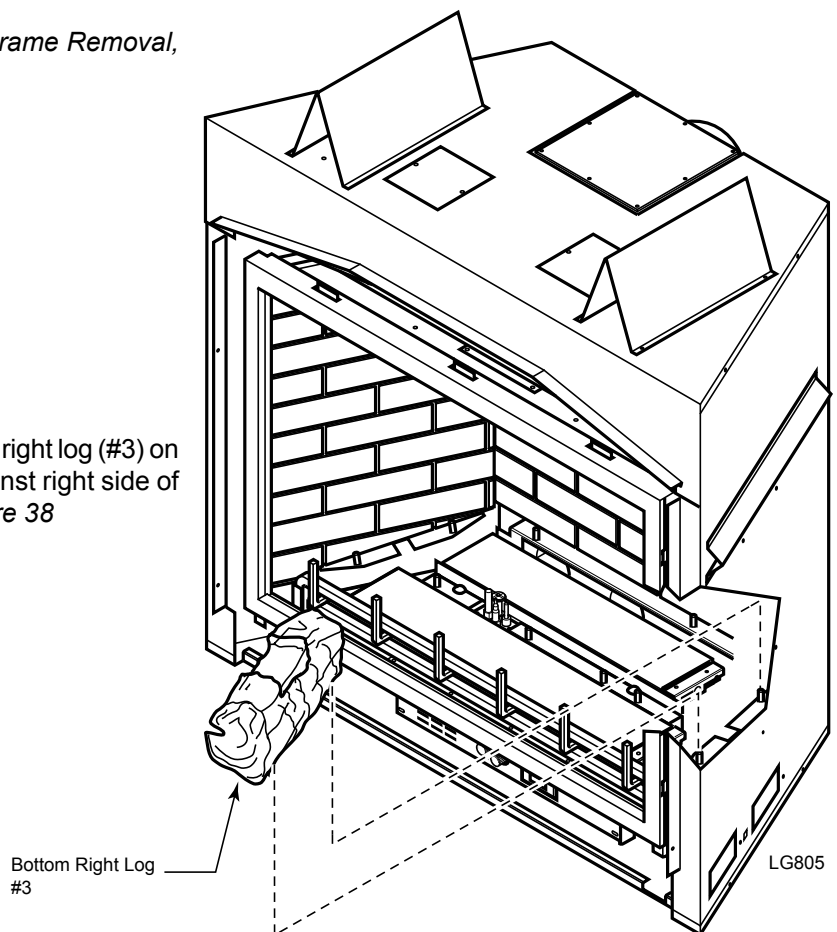

Figure 38
3. Place bottom right log (#3) on two pins against right side of firebox. *Figure 38*